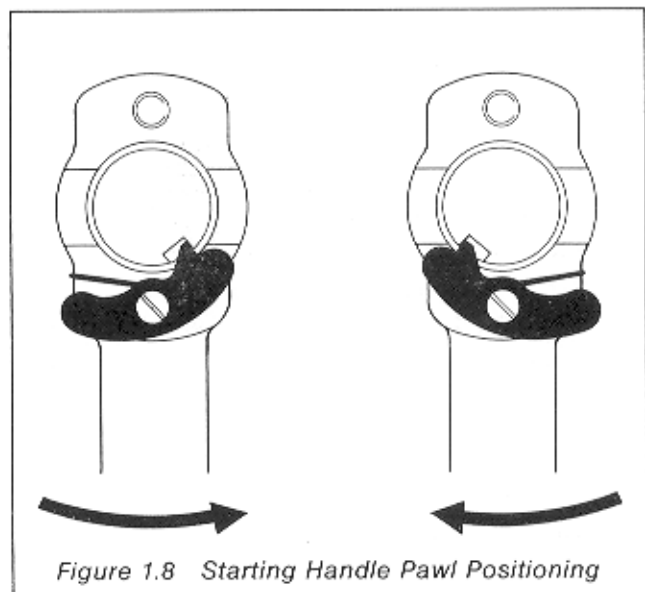

Figure 1.8 Starting Handle Pawl Positioning
1.40 The starting handle can be arranged for either clockwise or counter-clockwise rotation of the starting shaft as shown in Figure 1.8. Check that the pawl is correctly assembled. The pawl may be fitted at the top or bottom to give alternative starting positions.